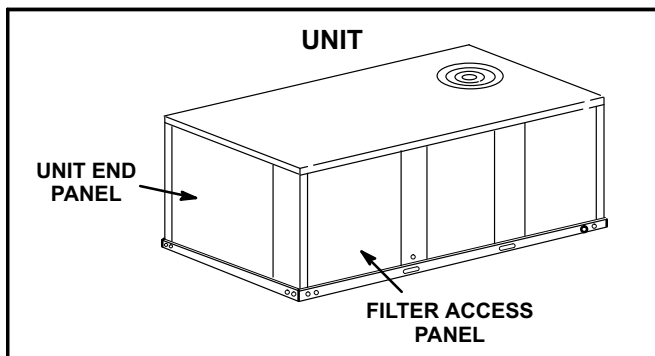

FIGURE 1
1. Open unit end panel. See figure 1.
- 1- Disconnect all power to unit and open filter access panel. See figure 1.